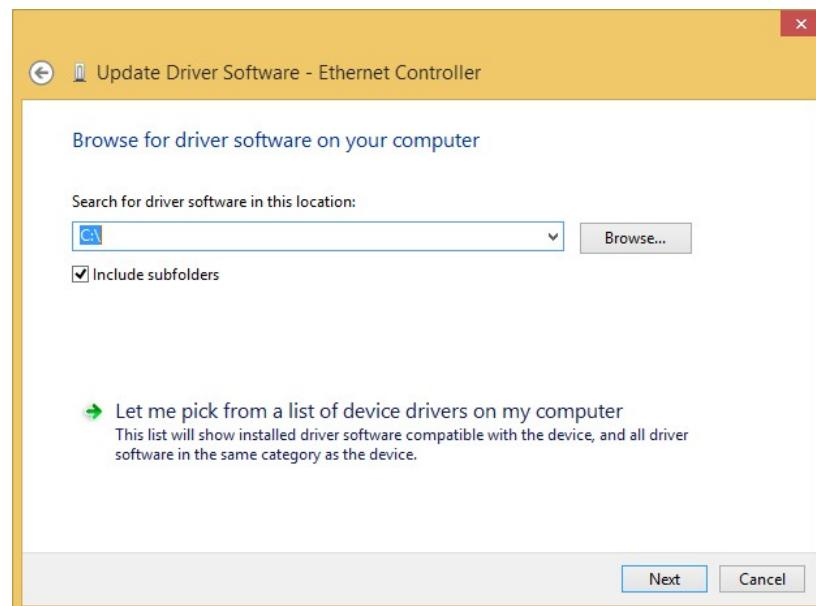

Figure 6-17: Locate Driver Files
Step 9: Click Browse to select “X:\2-LAN\Intel” directory in the **Locate File** window, where “X:\” is the system CD drive. (**Figure 6-17**).